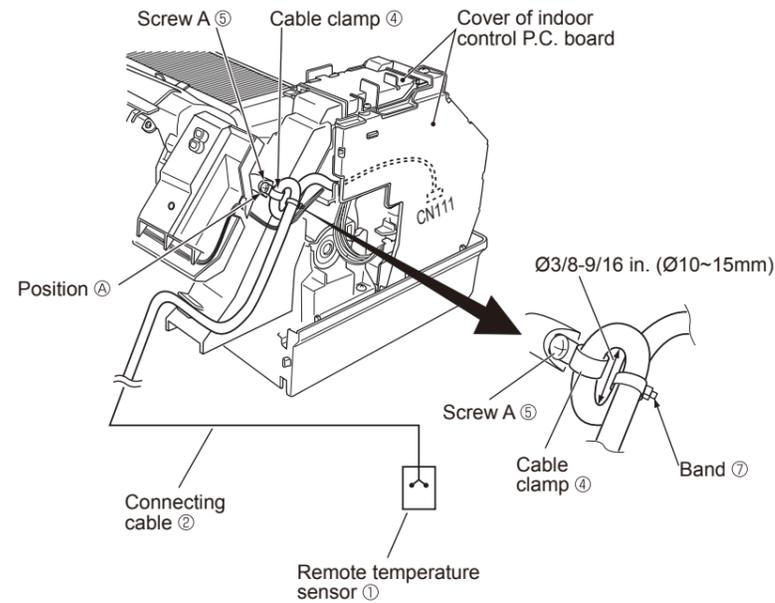

Fig. 1
- Connect the remote temperature sensor ① to the indoor control P.C. board installed in the air conditioner with the connecting cable ②.
- Do not bundle together the connecting cable ② and other cables/wires such as the power supply cord, the indoor/outdoor connecting wire, and the ground (earth) wire. Keep as much distance as possible between the connecting cable ② and other cables/wires.
- Remove the existing room temperature thermistor from CN111, and identify the shape of the connector. If the connector of the removed room temperature thermistor and that of the connecting cable ② are different in shape, connect the junction cable ③ to the connecting cable ②.
- Route the wires and cables in the indoor unit by following the installation manual for the interface came with the indoor unit. (How to route the wires/cables varies depending on the indoor unit model.) Also, identify the position where the interface cable is secured (hereafter position ④) by referring to the same installation manual.
- Connect the connecting cable ② (or the junction cable ③ connected to the connected cable ②) to CN111.
- Leave some slack in the connecting cable ② between CN111 and position ④, and make a loop with an inner diameter of 3/8 to 9/16 inches (10 to 15 mm) near position ④. Fasten the loop with the band ⑦. Attach the cable clamp ④ to the loop, and secure it to position ④ with the screw A ⑤. (Fig. 1)